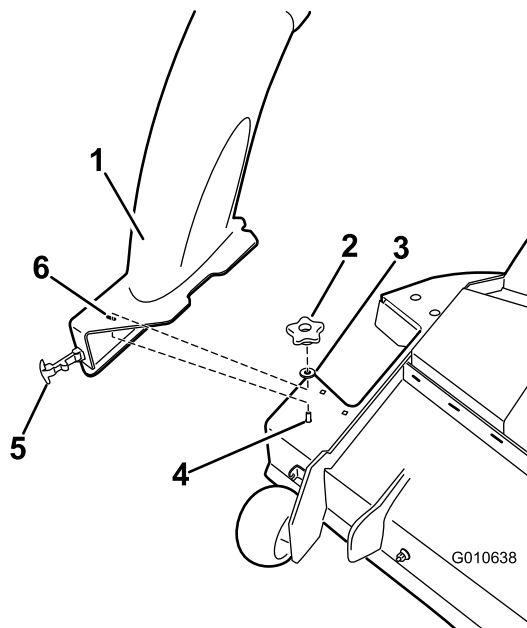

Figure 9
- Install the chute to the deck making sure the opening in top of the chute aligns with the exposed post on the deck top (Figure 9).